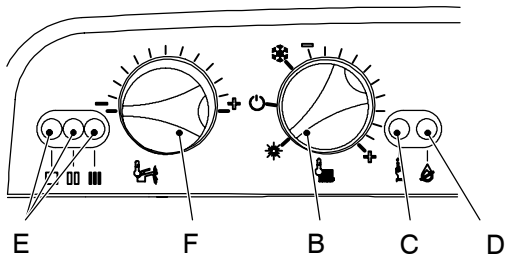

Fig. 11.6
- 19 Set the knob F to the minimum position as illustrated in Fig. 11.6.